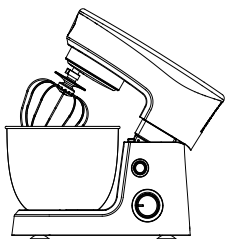
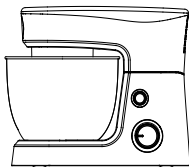

Figure1
Figure 2
- Place the mixing bowl (5) on position. First place the bowl on the base, then turn the bowl in clockwise until it locks into the right position (see fig.1).
- To lower the head and place mixing attachment (6/7/8) into the bowl (5) by holding the head (1) with one hand and easing the head down. A click sound will be heard when the head has reached the correct position.
- And make sure the bowl protective lid (10) in place (see fig.2).